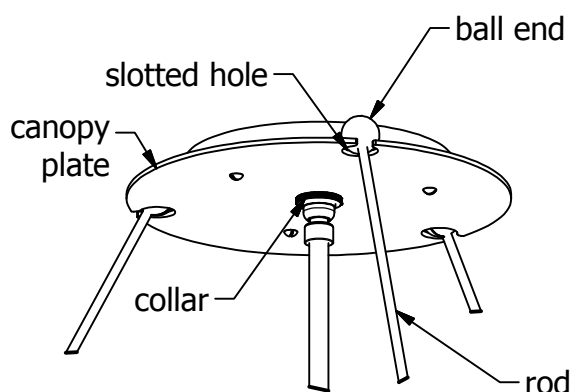

Figure 1
3. Slide a rod through one of the slotted holes and allow the ball end to be seated in the hole of the canopy plate (see Figure 1) so that the end of the rod with no ball end attached is hanging downward. Repeat for remaining two rods.